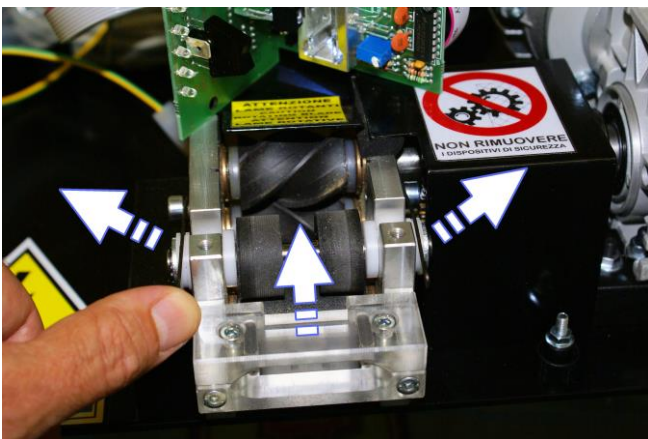

Figure 3
- If necessary, remove the drag roller, lifting upwards and then outwards the two lateral springs (Fig.3).